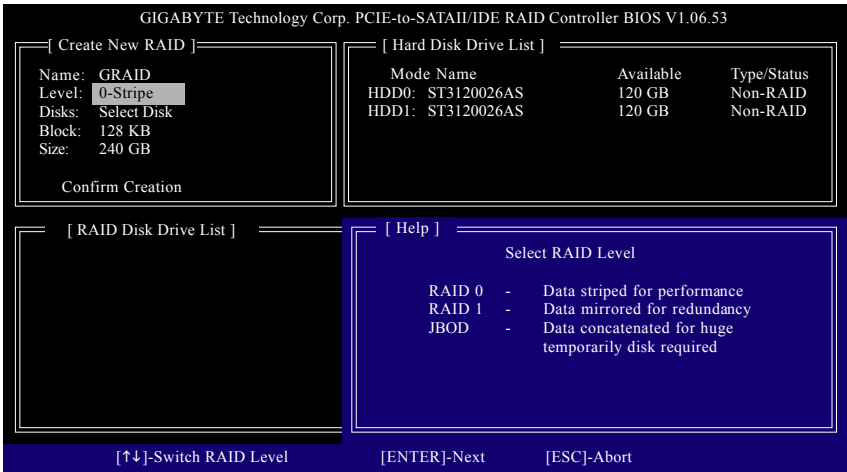

Figure 6
- 2. Select RAID Mode:** Under the **Level** item, use UP or DOWN ARROW key to select RAID 0 (Stripe), RAID 1 (Mirror), or JBOD (Figure 6). Then press ENTER to move onto the next step.